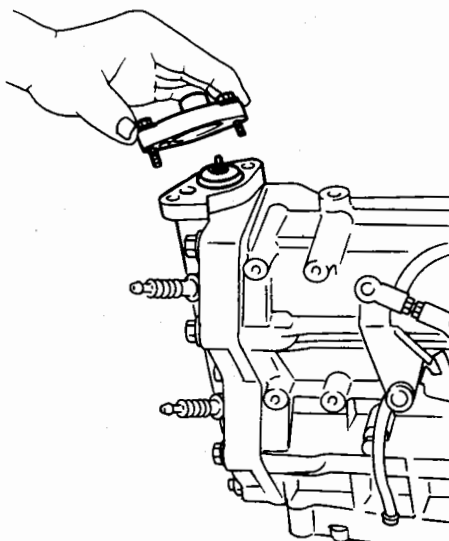

Fig. 30 Removing the thermostat
(9) Removing the thermostat (Fig. 30)